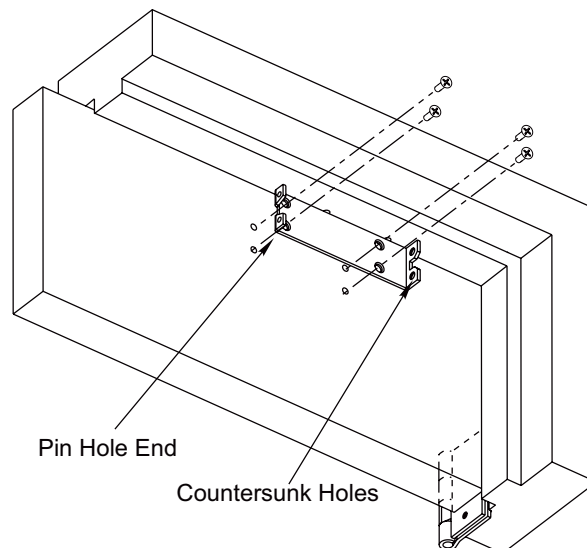

Figure 3
2. Install Closer Bracket. (Figure 3)